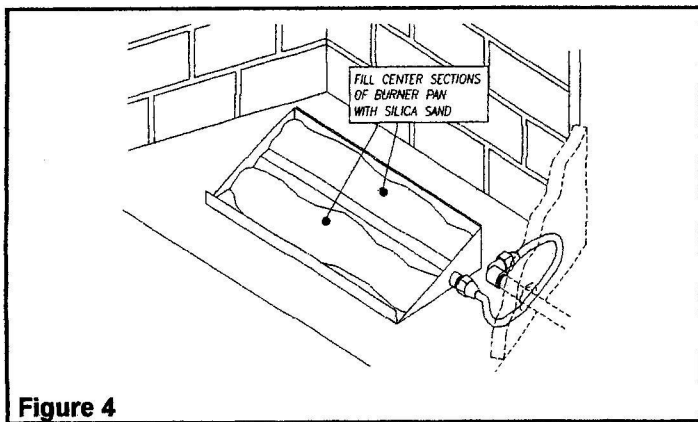

Figure 4
6. Fill the center section of the burner pan about half full with the **silica sand** provided (Figure 4). Tap burner pan lightly to settle sand. The sand should fill cavity under diverter plate. The sand disperses the gas flow and works with the burner design to create an optimum burning pattern of the fuel gas.